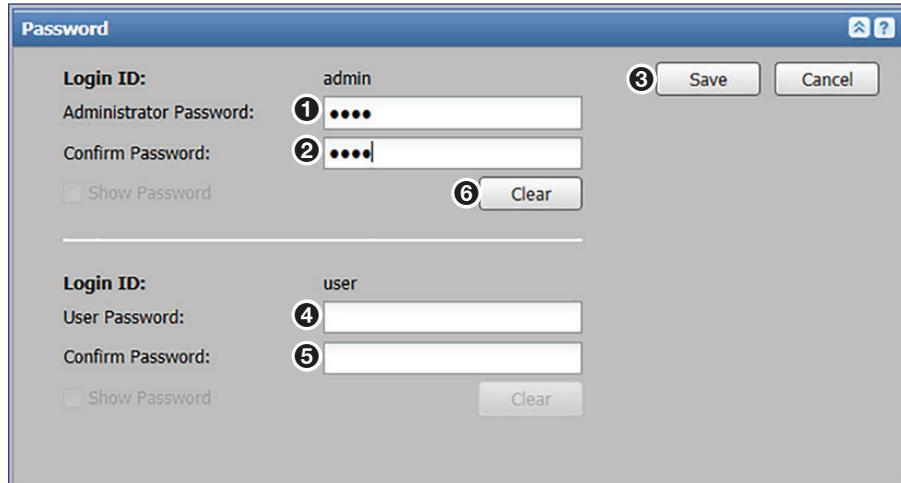

Figure 65. Password Panel
1. Enter a desired password, at least four characters long, into the **Administrator Password** field (see figure 65, ①) in the **Login ID: admin** panel.
2. Enter the same password into the **Confirm Password** field (②) directly below the **Administrator Password** field. Once a password is entered, the fields in the **Login ID: user** section are accessible.
3. If no user password is set, click **Save** (③) in the upper right of the Password panel.